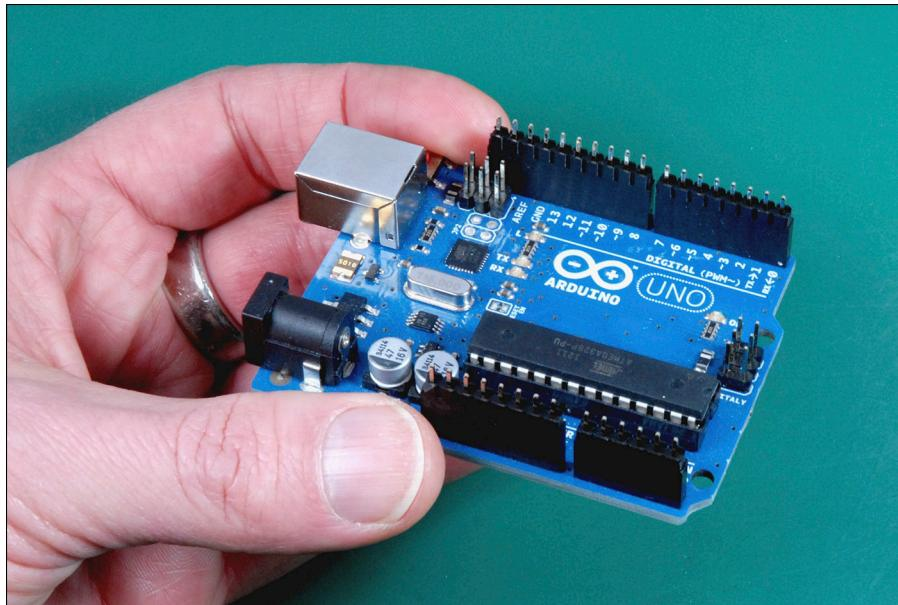

Figure 13-3:
2. You use your Arduino as a support for your pin headers while you solder them onto the shield. Insert the pin headers into your Arduino's header sockets, as in Figure 13-3.